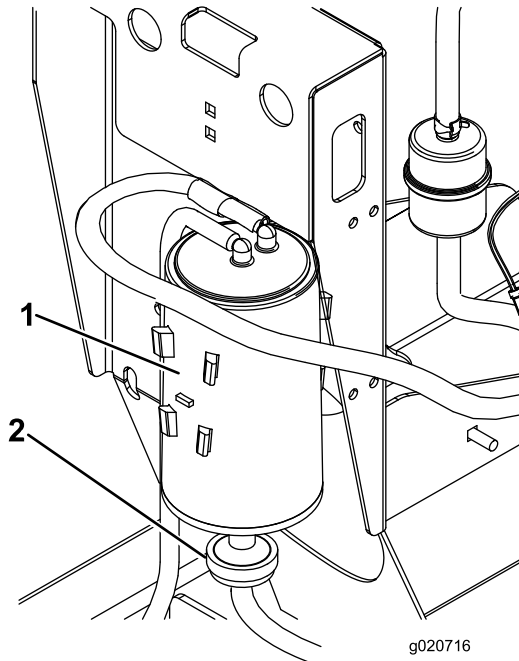

Figure 21
2. Disconnect the hose from the carbon canister air filter (Figure 21).
3. Remove and discard the carbon canister air filter (Figure 21).